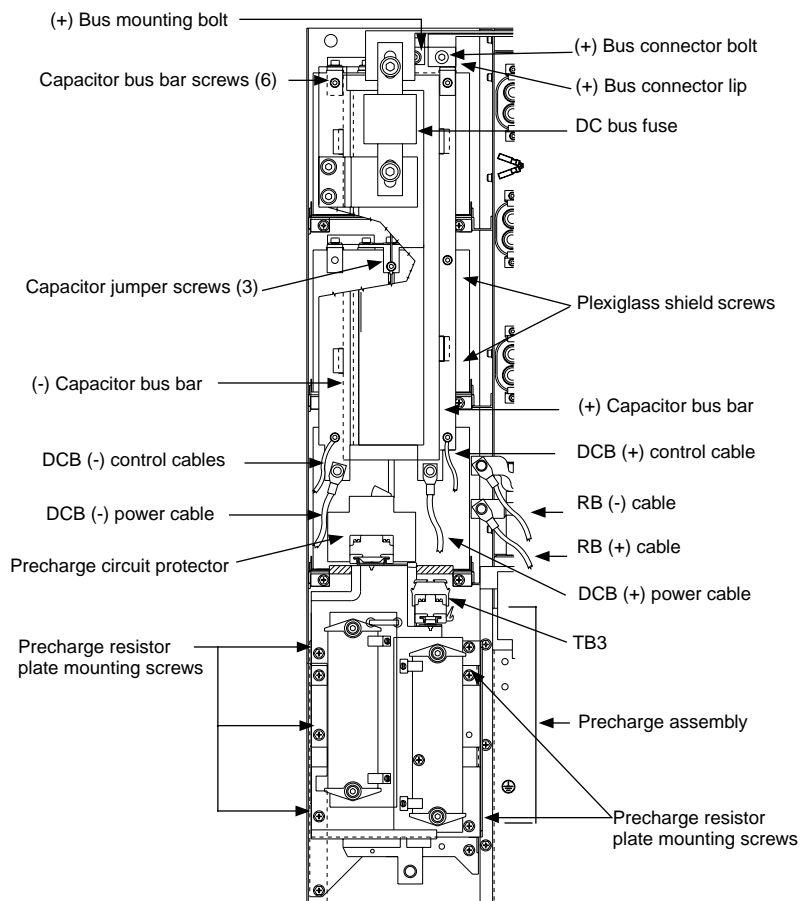
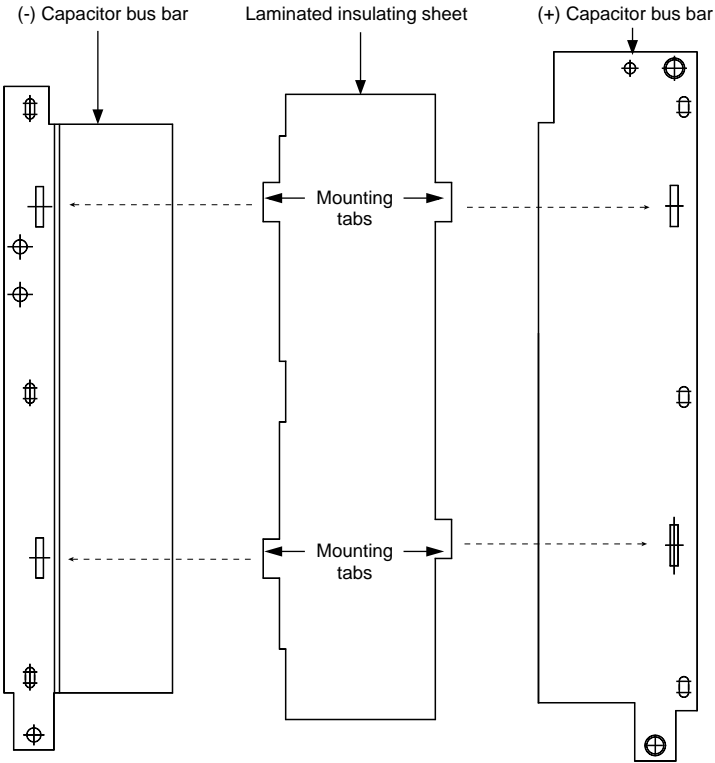

Figure 4.1.24: DC Bus Capacitor Mounting Diagram—Front View
Figure 4.1.26: Orientation of Capacitor Bus Bars and Laminated Insulating Sheet
2. Using a drive socket, loosen and remove the two screws which hold the plexiglass shield in place (see Figure 4.1.24 on page 4.1.58).
2. Using a drive socket, loosen and remove the two screws which hold the DC bus capacitor bank plexiglass shield in place (see Figure 4.1.24).
4. Using a hex key wrench, loosen and remove the two DC bus fuse screws. Remove the DC bus fuse (see Figure 4.1.24).
5. Using a hex key wrench, loosen and remove the two bolts which hold the DCB(+) and DCB(-) power cables (see Figure 4.1.24).
6. Using a hex key wrench, remove the positive (+) bus connector bolt (see Figure 4.1.24).
7. Using a hex key wrench, loosen and remove the four or six capacitor bus bar screws which hold the laminated bus assembly in place. Remove the two DCB(-) and one DCB(+) control cables (see Figure 4.1.24).
9. Using a hex key wrench, loosen and remove the (+) bus mounting bolt (see Figure 4.1.24).
11. Using a hex key wrench, loosen and remove the three screws holding the two capacitor jumpers which connect the center posts of the three bus capacitor assemblies. Remove the two jumpers (see Figure 4.1.24).
NOTE: To remove the bottom bus capacitor assembly, it is necessary to pull the precharge circuit protector, the precharge resistor plate, and the RB(-) and RB(+) cables out of the way (see Figure 4.1.24). To loosen the precharge circuit protector, follow the procedure on page 4.1.88, but do not remove any wiring. Loosen the precharge assembly by using a drive socket to remove the five precharge resistor plate mounting screws (see Figure 4.1.24). Do not remove any of the wiring from the precharge assembly. Using a hex key wrench, loosen and remove the two bolts which hold the RB(-) and RB(+) cables to the rectifier bus bars.
NOTE: If the bottom bus capacitor assembly has been replaced, it will be necessary to reinstall the precharge circuit protector, the precharge resistor plate and the RB(-) and RB(+) cables (see Figure 4.1.24). First place the RB(+) cable over its mounting location on the RB(+) bus bar. Using a torque wrench with a hex key socket, install and tighten the mounting screw to a torque of 74.3 lb-in (8.4 N•m). Next, place the RB(-) cable over its mounting location on the RB(-) bus bar. Using a torque wrench with a hex key socket, install and tighten the mounting screw to a torque of 74.3 lb-in (8.4 N•m). Align the precharge resistor plate over the five mounting holes. Using a torque wrench with a drive socket, install and tighten the five mounting screw to 35.4 lb-in (4.0 N•m). Reinstall the precharge circuit protector following the procedure on page 4.1.88.
15. Install the two capacitor jumpers and three capacitor jumper screws (see Figure 4.1.24). Using a torque wrench and a hex key socket, tighten the screws to 40.7 lb-in (4.6 N•m).
16. Install the (+) capacitor bus bar. See Figure 4.1.26 on page 4.1.60 for the correct orientation. The side with the captive mounting nut is the back side. The upper right corner of the (+) capacitor bus bar must be mounted under the (+) bus connector lip (see Figure 4.1.24). Install the (+) bus mounting bolt. Using a torque wrench and hex key socket, tighten the bolt to 74.3 lb-in (8.4 N•m).
17. Install the laminated insulation sheet that electrically isolates the (+) and (-) capacitor bus bars. See Figure 4.1.26 on page 4.1.60 for correct orientation and where to insert tabs into buswork. **Do not scratch or damage laminated insulating sheet. If sheet has been damaged, contact Square D for replacement.**
- Install insulator per Figure 4.1.26 on page 4.1.60.
18. Install the (-) capacitor bus bar. See Figure 4.1.26 for correct orientation. The side with the danger label should be facing out. Install the four or six capacitor bus bar screws in the (+) and (-) capacitor bus bars. The two DCB(-) cables should be mounted under the bottom left screw and the DCB(+) cable should be mounted under the bottom right screw. Using a torque wrench and hex key socket, tighten the screws to 40.7 lb-in (4.6 N•m).
19. Install the DCB(-) and DCB(+) power cables and connection bolts on the capacitor bus bars (see Figure 4.1.24 on page 4.1.58). Using a torque wrench and a hex key socket, tighten the bolts to 164 lb-in (18.5 N•m).
20. Install the (+) bus connector bolt (see Figure 4.1.24 on page 4.1.58). Using a torque wrench and hex key socket, tighten the bolt to 164 lb-in (18.5 N•m).
21. Install the DC bus fuse and two screws (see Figure 4.1.24 on page 4.1.58). Using a torque wrench and a hex key socket, tighten the two screws to 323 lb-in (36.5 N•m).
22. Install the plexiglass shield. Using a drive socket, install and tighten the two mounting screws to 35.4 lb-in (4.0 N•m). See Figure 4.1.24 on page 4.1.58.
Figure 4.1.27: Wiring Diagram for Control Power Transformer, Precharge Contactor and Auxiliary Contact Block, Precharge Resistors, Precharge Circuit Protector and Ground Fault Sensor (see Figure 4.1.24 on page 4.1.58 and Figure 4.1.29 on page 4.1.69).
2. Using a drive socket, loosen and remove the two DC bus capacitor bank plexiglass shield screws (see Figure 4.1.24 on page 4.1.58). Remove the plexiglass shield.